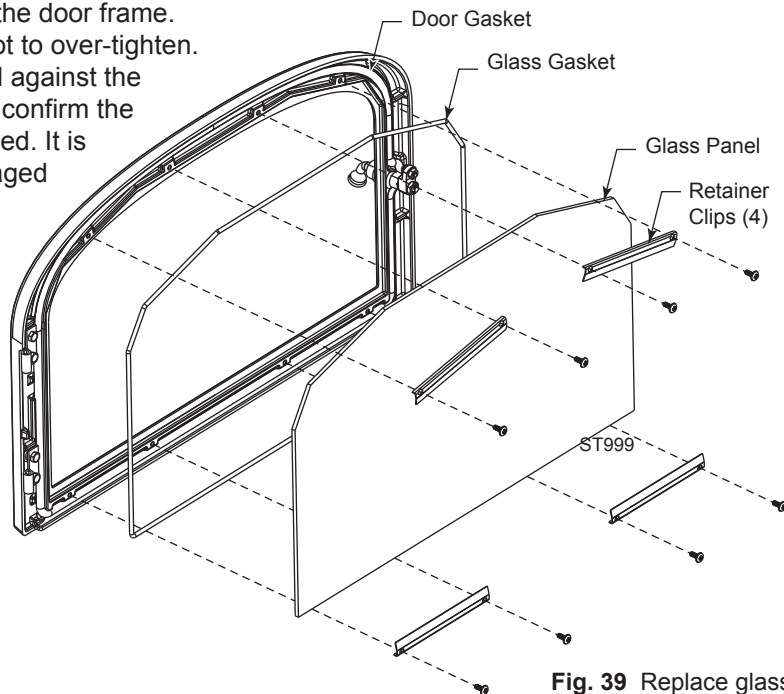

Fig. 39 Replace glass.
- Open the door and loosen the four retaining clip screws that hold the glass to the door. Swing the clips out of the way. Tilt the glass away from the door frame and lift up. (Fig. 39) Wear gloves and use caution when handling broken glass.